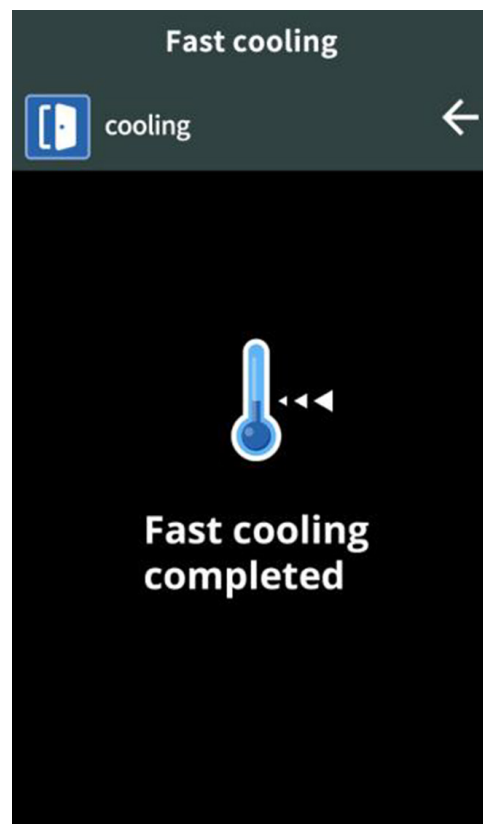

Fig 52
2. Fast cooling completed (Fig 52).